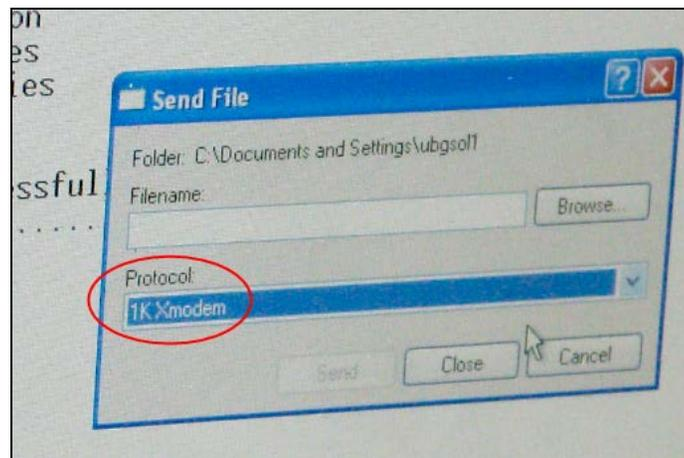

Fig.22
7. In the Send File box, make sure that the protocol is set to “1K Xmodem” (Fig.22).